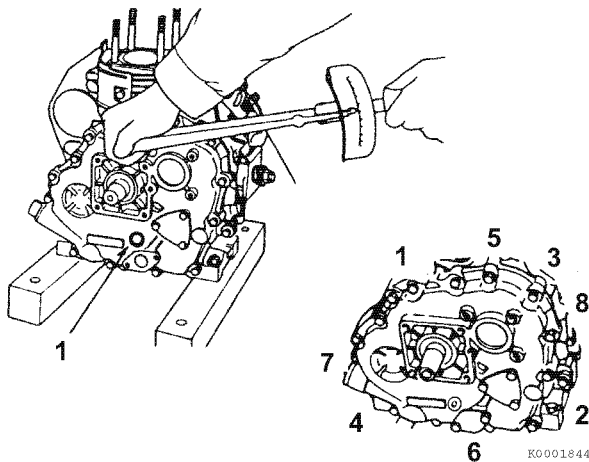

Figure 6-103
5. Install the crankcase cover (1, **Figure 6-103**) while pushing down lightly on the crankcase cover. Slowly turn the flywheel to allow the governor/oil pump drive gear to mesh with the camshaft gear. Maintain the light pressure while “wiggling” the cover slightly to align the balancer shaft bearing and the camshaft bearing with their respective pockets in the underside of the cover until the cover drops into place.
- Tighten the crankcase cover bolts to the specified torque in two stages (1/2 then full torque) in the sequence shown (**Figure 6-103**). See *Special Torque Specifications* on page 6-17.
- Tighten the stiffener bolts after the bolts on the crankcase perimeter are tightened (**Figure 6-103**). See *Special Torque Specifications* on page 6-17.